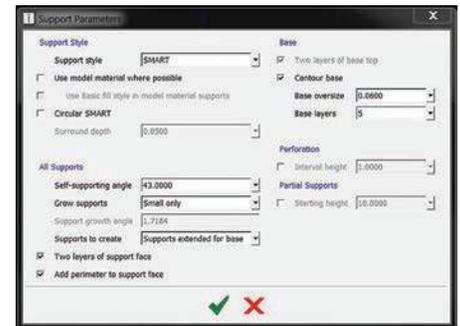

Figure 1: Support Parameters dialog box in Insight software.
STEP 3: In the **Base** section, make sure the checkbox next to **Contour Base** is checked (Figure 1).